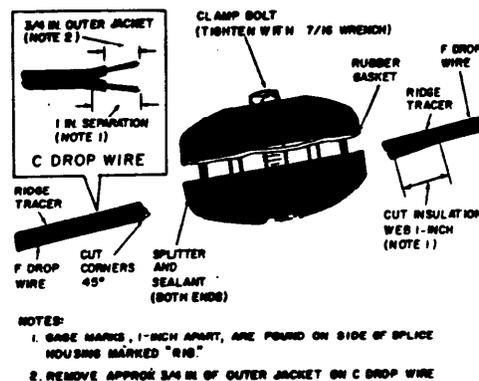

Fig. 2 - Drop Wire Preparation
- (b) Slit the drop wire 1-inch with a drop wire splitter as illustrated in Fig 2.